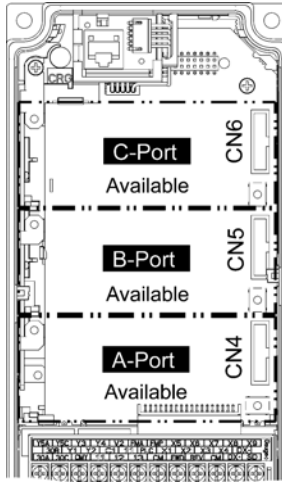

Figure 3.1 In the case of 0.4 kW
- (1) Remove the front cover from the inverter and expose the control printed circuit board (control PCB). As shown in Figure 3.1, the communications card can be connected to any one of the three option connection ports (A-, B-, and C-ports) on the inverter.